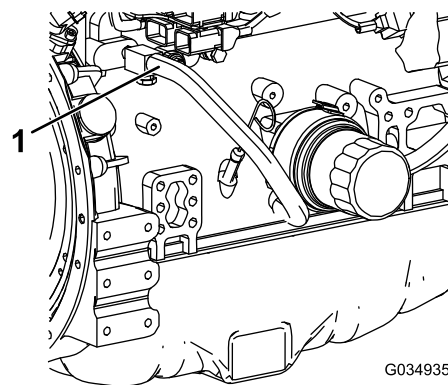

Figure 92
7. Remove the coolant hose from the engine-oil cooler (Figure 92).